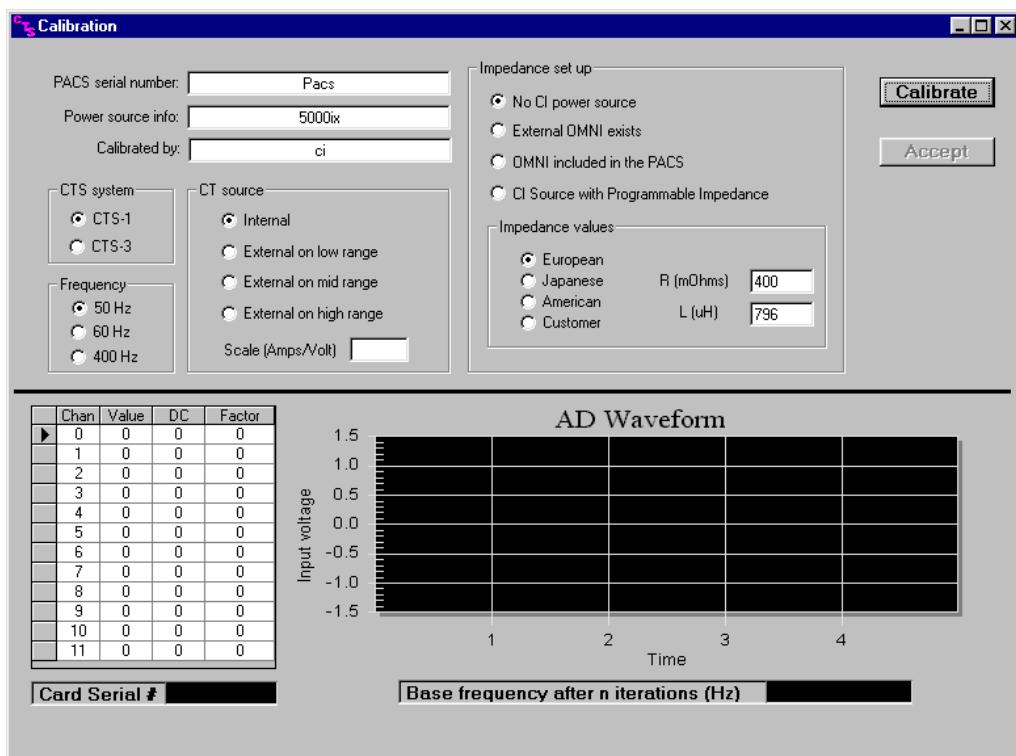

Figure 17-1 : CTS 4 Calibration Program Main Screen
1. Start the Calibration module located in the **Compliance Test System** Program group called **Calibration** (See Figure 17-1).